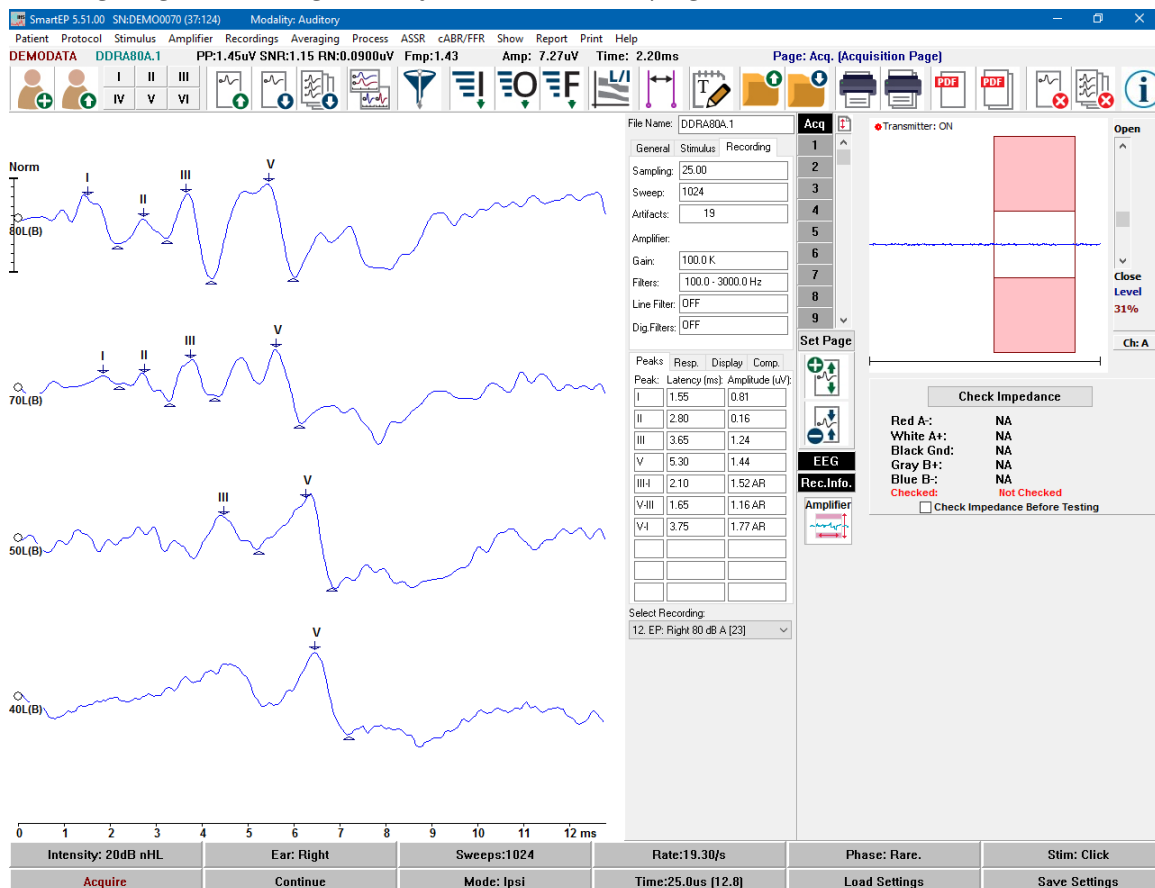

Figure 1 - SmartEP Main Window
- **Title Bar:** The Title Bar is the top-most bar shown in Figure 1. This bar contains the name of the program, software version number, system serial number (as SN:IHSXXXX), and hardware identification (as hardware type code and hardware serial number). The current modality of operation is shown to the right of the system information.
- **Recording Information Panel:** It is the panel shown immediately to the left of the recording area in Figure 1. This panel can be shown/hidden when the **[Rec Info]** button is pressed on the side menu. It contains all pertinent information about the selected response organized in multiple tabs.
- **EEG Panel:** It is the panel shown to the right of the window in Figure 1. The live EEG can be seen on this panel when active. To activate the panel, click on the **[EEG]** button in the side menu. For the Duet platform, the area also shows a **[Check Impedance]** button and the results below the EEG; as well as a channel display option to show either of the two channels, or both simultaneously.